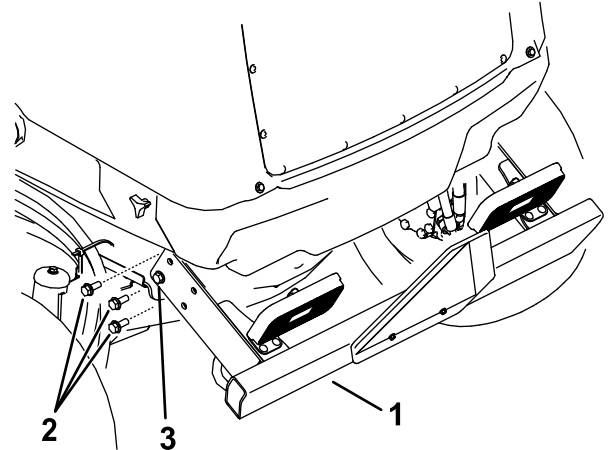

Figure 110
2. Remove the three 3 flange screws from each side of the rear bumper as shown in Figure 110.
6. Raise the rear bumper into position and install the flange screws. Tighten all the flange screws securing the rear bumper to the frame (Figure 110).